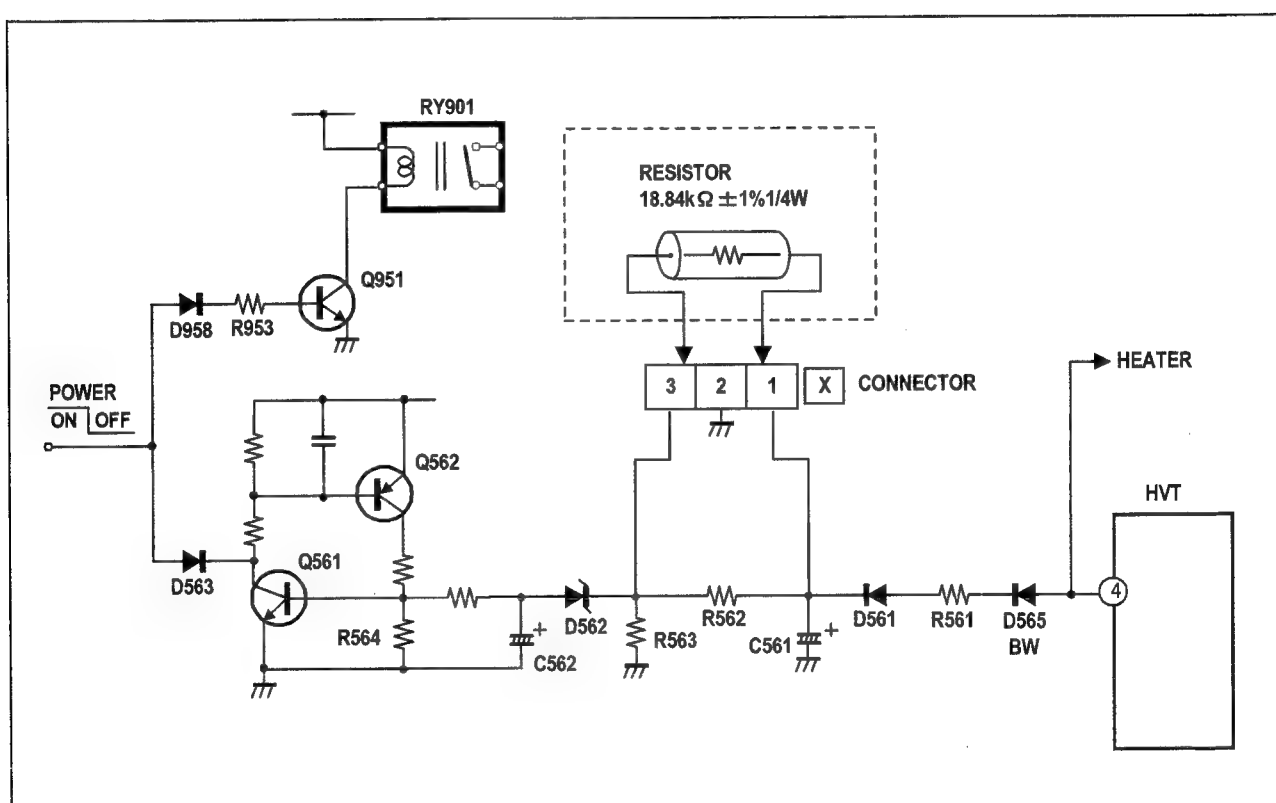

Fig. 1
After repairing the high voltage hold down circuit shown in Fig. 1.
- (1) Turn the POWER SW ON.
- (2) As shown in Fig. 1, set the resistor (between ☐ connector ☐ 1 & ☐ 3 ).
- (3) Make sure that the screen picture disappears.
- (4) Temporarily unplug the power cord.
- (5) Remove the resistor (between ☐ connector ☐ 1 & ☐ 3 ).
- (6) Again plug the power cord, make sure that the normal picture is displayed on the screen.